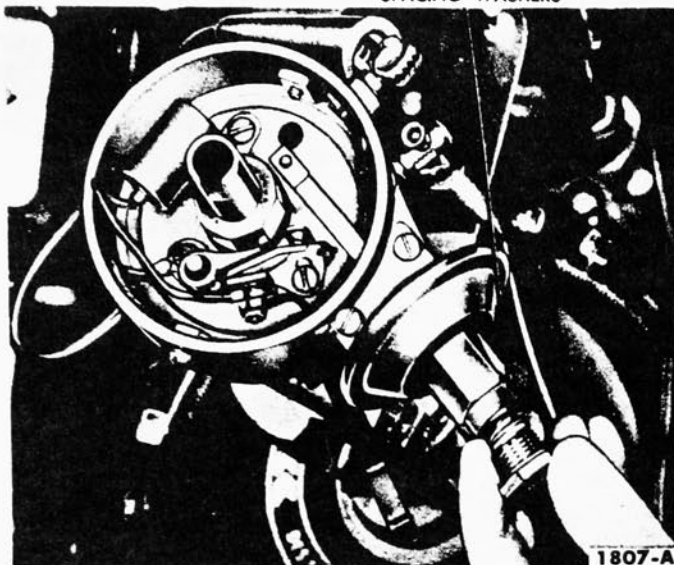

FIG. 13—Vacuum Advance Adjustment
3. If the advance is incorrect, change the spacing washers between the vacuum chamber spring and nut (Fig. 13). After installing or removing the washers, position the gasket in place and tighten the nut. **The addition of a washer will decrease advance**